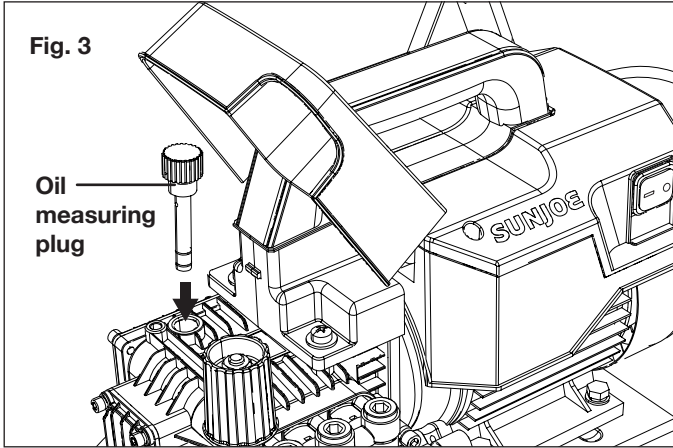

Fig. 3
3. Insert the provided oil measuring plug and secure in place by twisting it clockwise (Fig. 3).